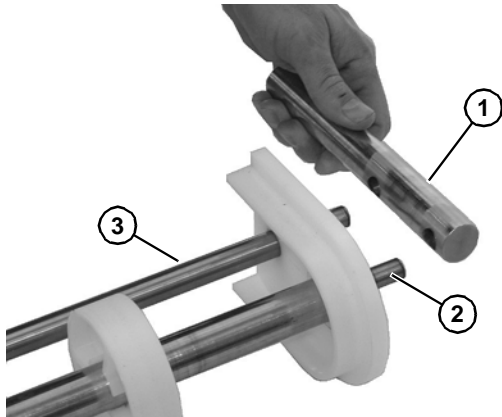

Figure 62
2. Remove the bearing end rod (Figure 62, item 1) from idler shaft (Figure 62, item 2) and pinch guard shaft (Figure 62, item 3).